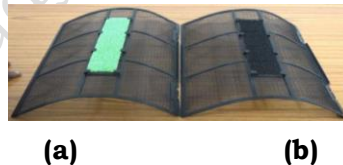

Fig. 1.27 Air Filter (a) Catechin filter (b) Carbon Filter
3. **Air Filter** – It is located in the indoor unit and serves to filter the air that is drawn into the system for cooling. The primary function of the air filter is to remove dust, pollen, pet dander, and other airborne particles from the indoor air. Figure 1.27 illustrates the two types used in indoor units: Catechin filter and carbon filter.